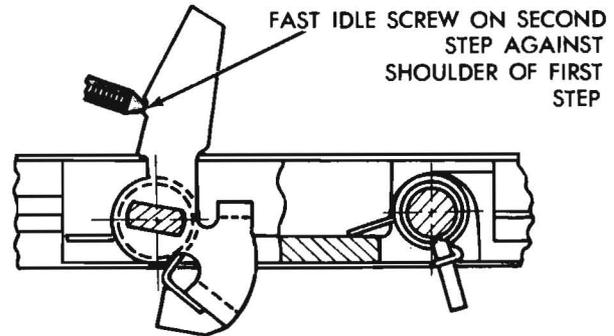

Figure 32. Fast-Idle Speed Cam Position—Slide 2201
- (1) With engine off and transmission in "PARK" or "NEUTRAL" position, open the throttle slightly.
- (2) Close the choke valve until the fast-idle screw can be positioned on the second step of fast-idle cam against shoulder of first step. (See figure 32.)
- (3) Start the engine and determine stabilized speed. Rotate the fast-idle speed screw in or out to secure the specified speed. (Refer to specifications.)
- (4) Stopping the engine between adjustments is not necessary. However, re-position the fast-idle speed screw on the cam after each speed adjustment to provide correct throttle closing torque.